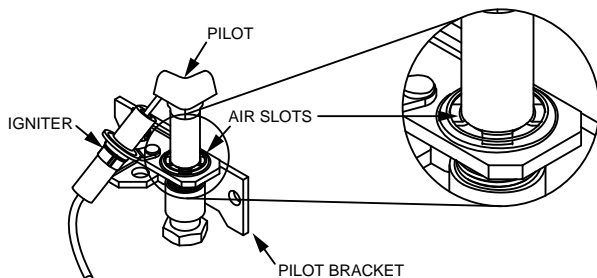

FIGURE 28.
2. Use a soft bristle brush to remove any debris that may have collected on the pilot. **Note:** Clean any debris found in the air slots at the base of the pilot. See Figure 28.